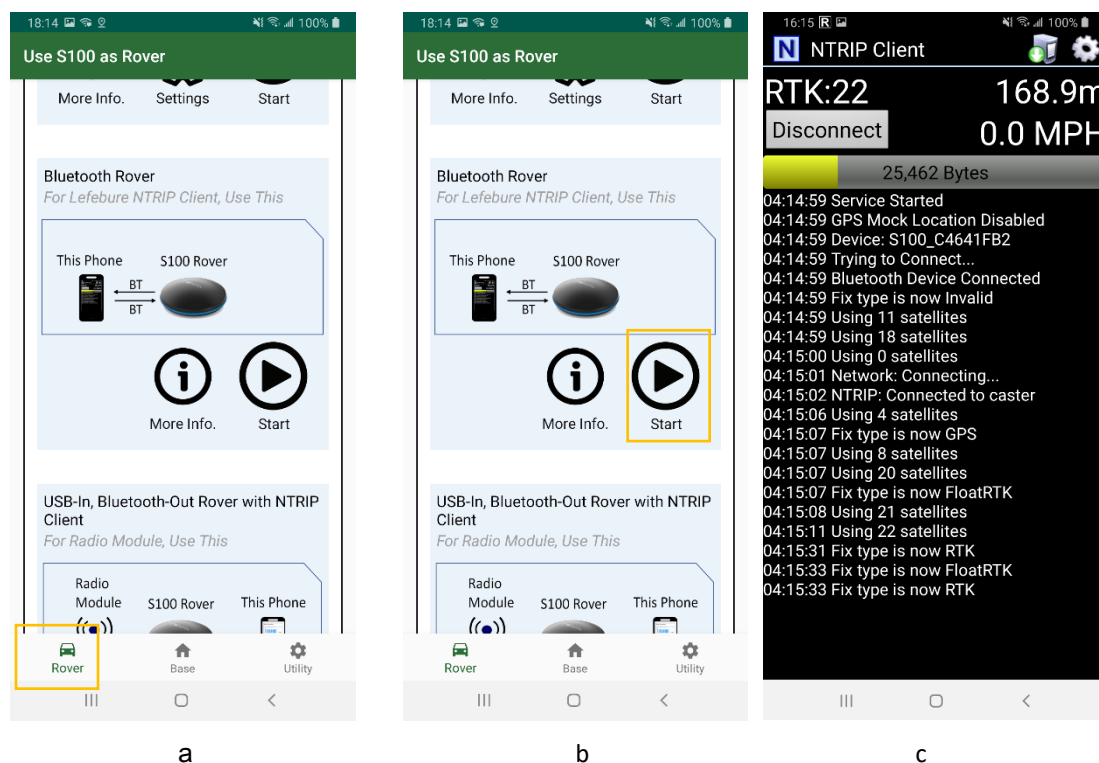

Figure 4-5
1. Switch to Rover tab in the app. See Figure 4-5 a
2. Click Start of “Bluetooth Rover”; the app Polaris Connect will be closed. See Figure 4-5 b
3. Start third-party NTRIP client app to receive RTK correction data, sends it to S100, and receive position data stream from S100. See Figure 4-5 c.